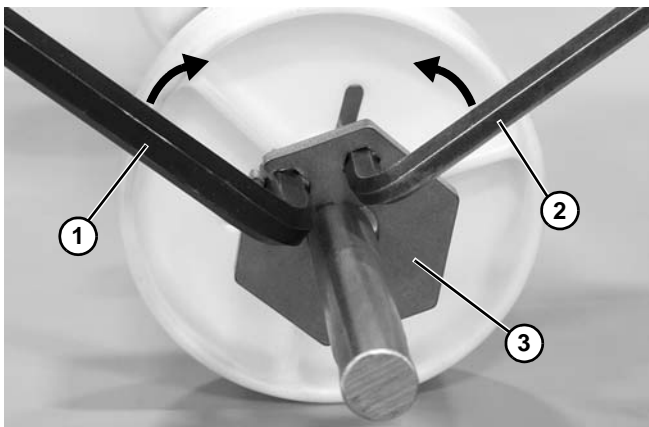

Figure 88
- a. Insert an 8 mm (**Figure 88, item 1**) and 6 mm (**Figure 88, item 2**) hex wrench into the retainer plate.
- b. Move wrenches toward each other to open the retainer plate (**Figure 88, item 3**) and install onto the shaft. Position retainer plate where needed.